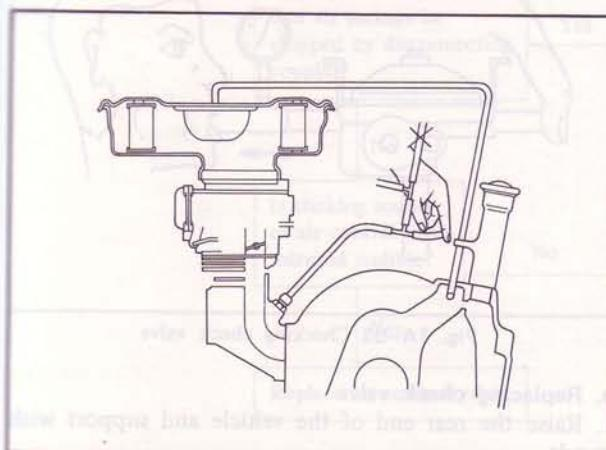

Fig. 1A-47 Checking ventilation valve
3. Make sure that the engine speed drops when the evaporative hose is squeezed by hand as shown in Fig. 1A-47 and then the ventilation hose removed in the above procedure 2 is closed with the fingers. If the engine stalls on that occasion, replace the ventilation valve.